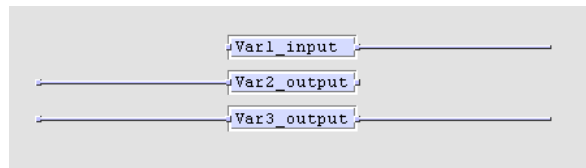

Figure 279: Direction of global variables
- The direction of the variable is determined based on the graphical representation, shown in Figure 279.